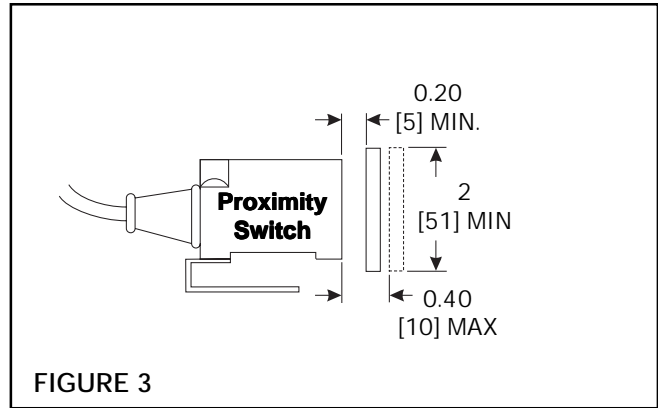

FIGURE 3
1. The Proximity Switch senses a customer supplied ferrous metal (iron or steel) target. The minimum gap between the Proximity Switch and the target is 0.20 inches [5 mm] and maximum gap is 0.40 inches [10 mm]. The target must be of sufficient mass to trigger the Proximity Switch and may be mounted to the roll shaft or any other mechanical component which rotates at the same speed as the roll shaft, brake, rotor, etc. (See Figure 3).